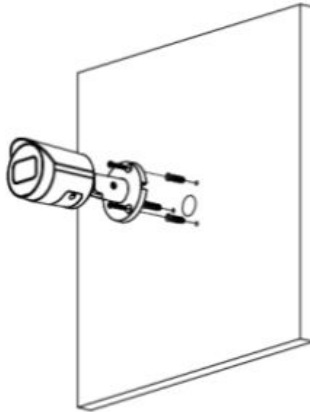

Figure 2-2
Step 2 Install the expansion bolts if necessary. Thread the base screws through the mounting holes in the base of the camera. See Figure 2-2.